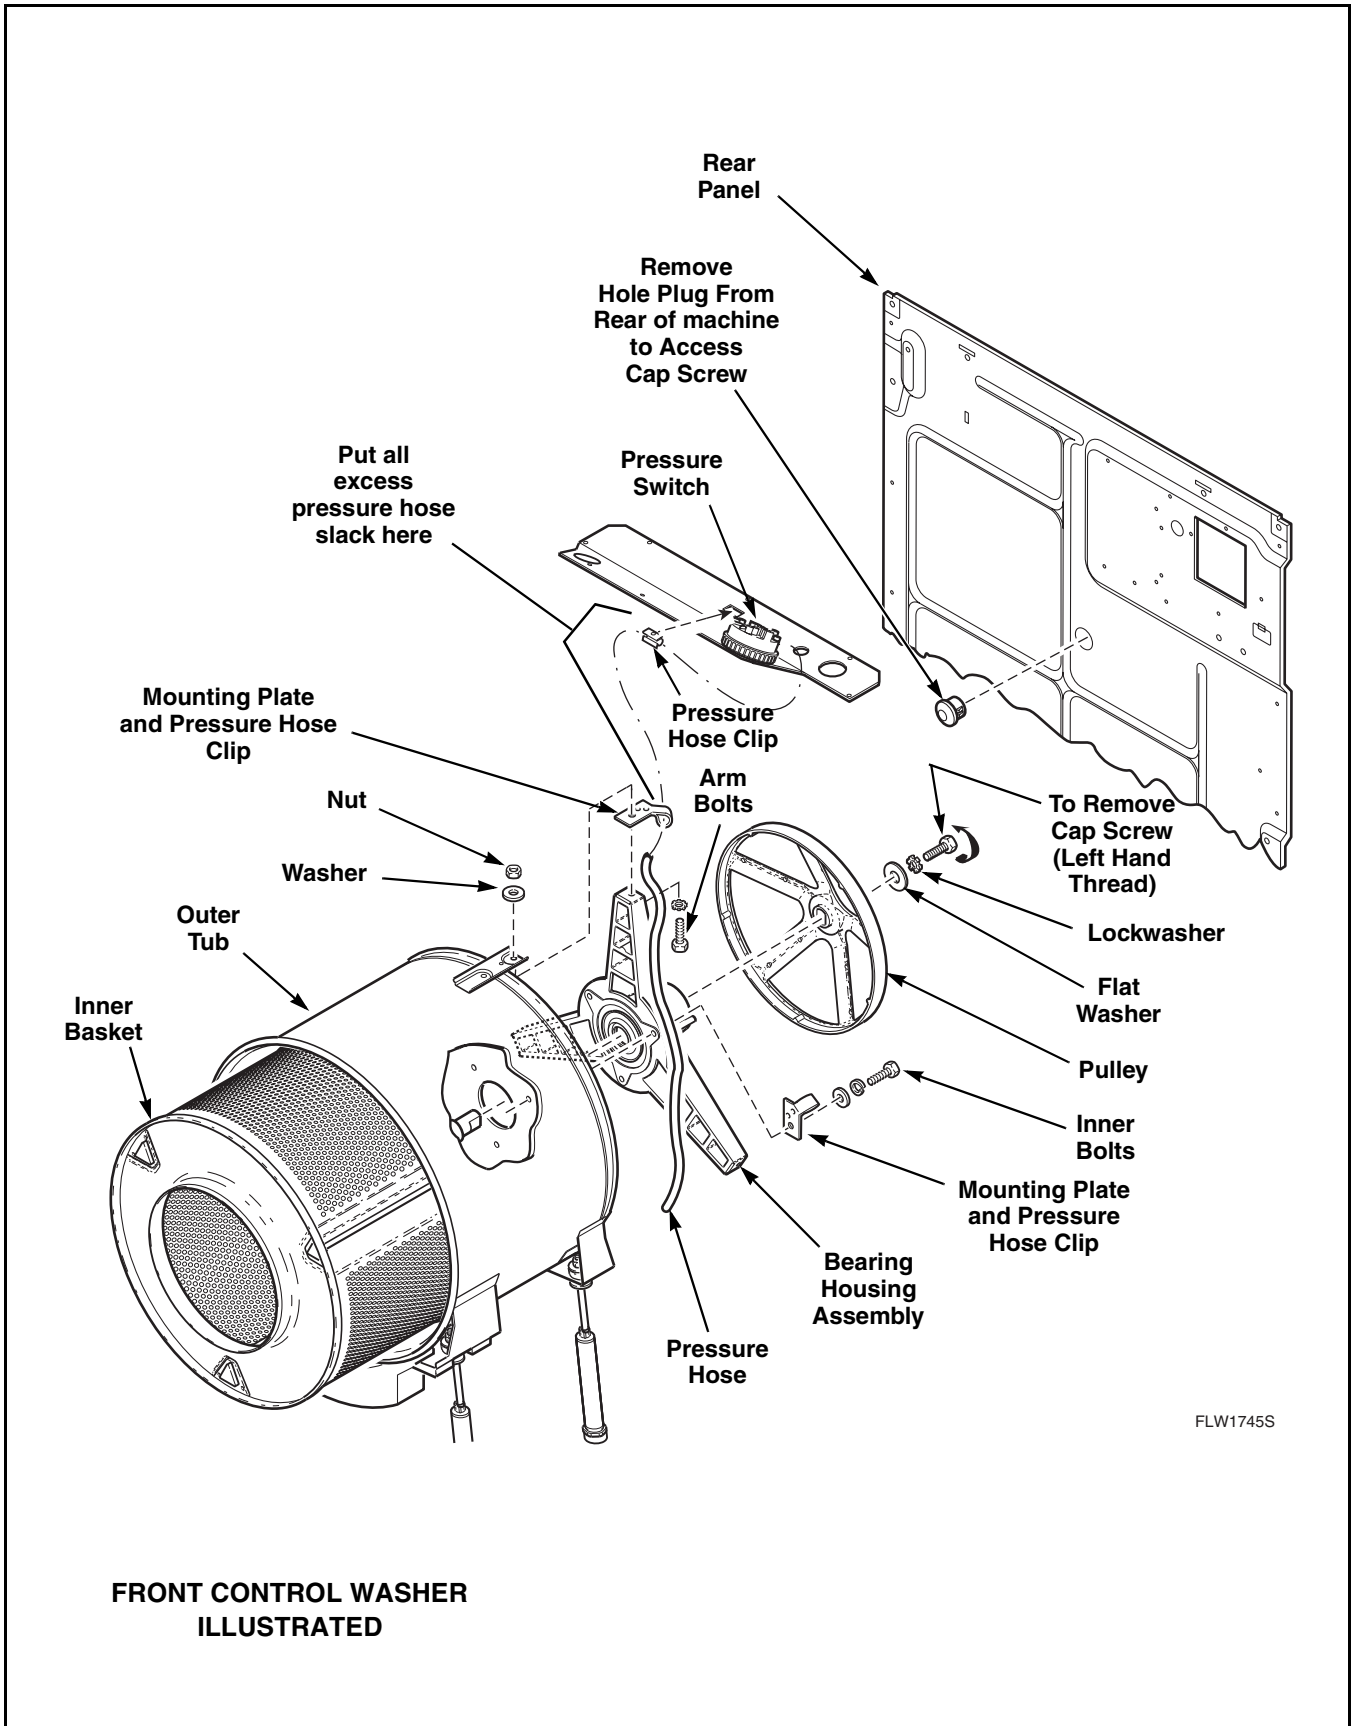

Figure 38
- e. Remove cap screw (left hand thread), lockwasher and flat washer holding pulley to inner basket shaft. Refer to *Figure 38*.
NOTE: Cap screw can be accessed through hole in rear panel by removing hole plug. Refer to *Figure 38*.
- s. Remove cap screw (left hand thread), lockwasher and flat washer holding pulley to inner basket shaft. Refer to *Figure 38*.
- d. Install pulley, flat washer, lockwasher and left hand thread screw. Refer to *Figure 38*.